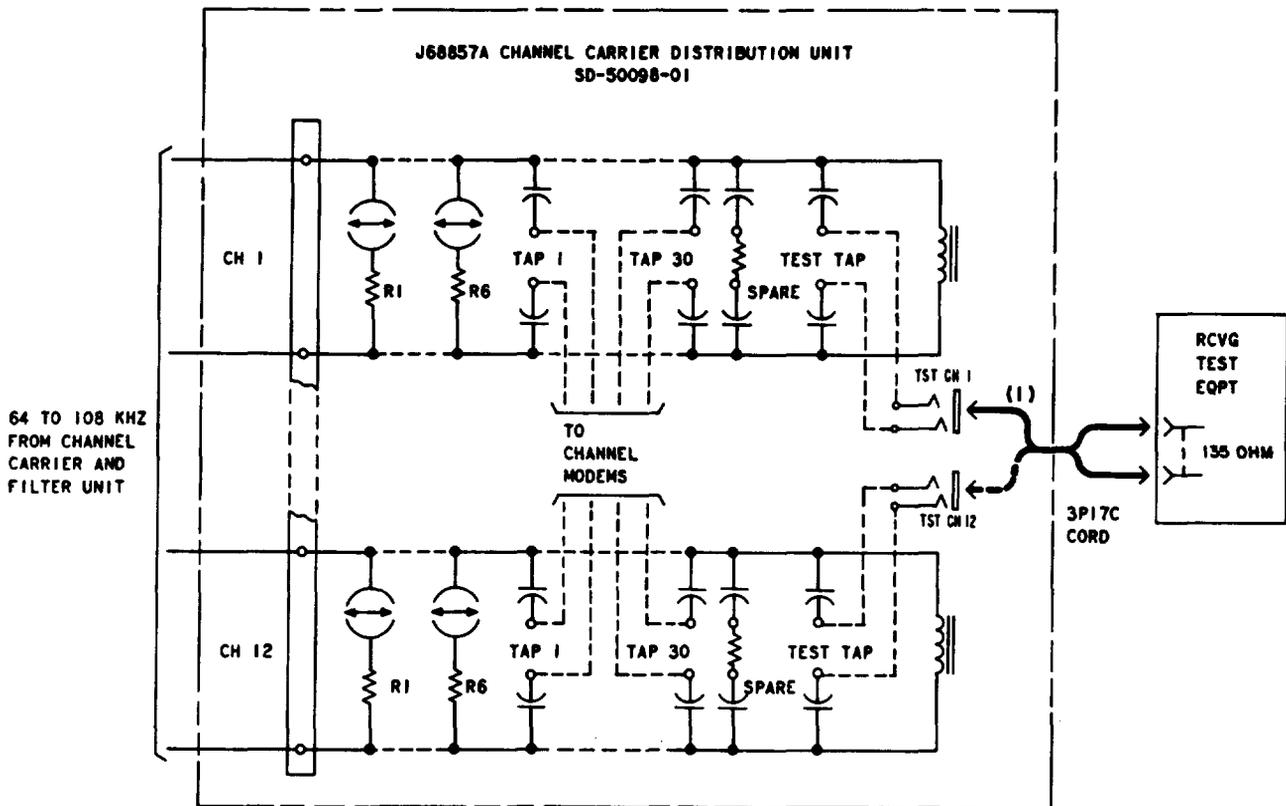

Fig. 2—J68857A Channel Carrier Distribution Unit—Measurement of Output Power
| 4 | <p>Connect the RTE to the TST CH() jack of the distributing bus to be tested [patch (1), Fig. 2].</p> | | | | | | | | | | | | | | | | | | | | | | | | | | |
| 7 | <p>Remove patch (1), Fig. 2.</p> | | | | | | | | | | | | | | | | | | | | | | | | | | |